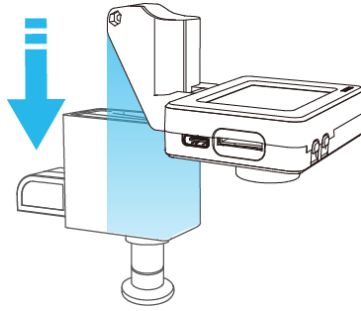

Figure 3.7 Place AI camera
Step 2 Mount the AI camera on the servo, as shown in Figure 3.7.